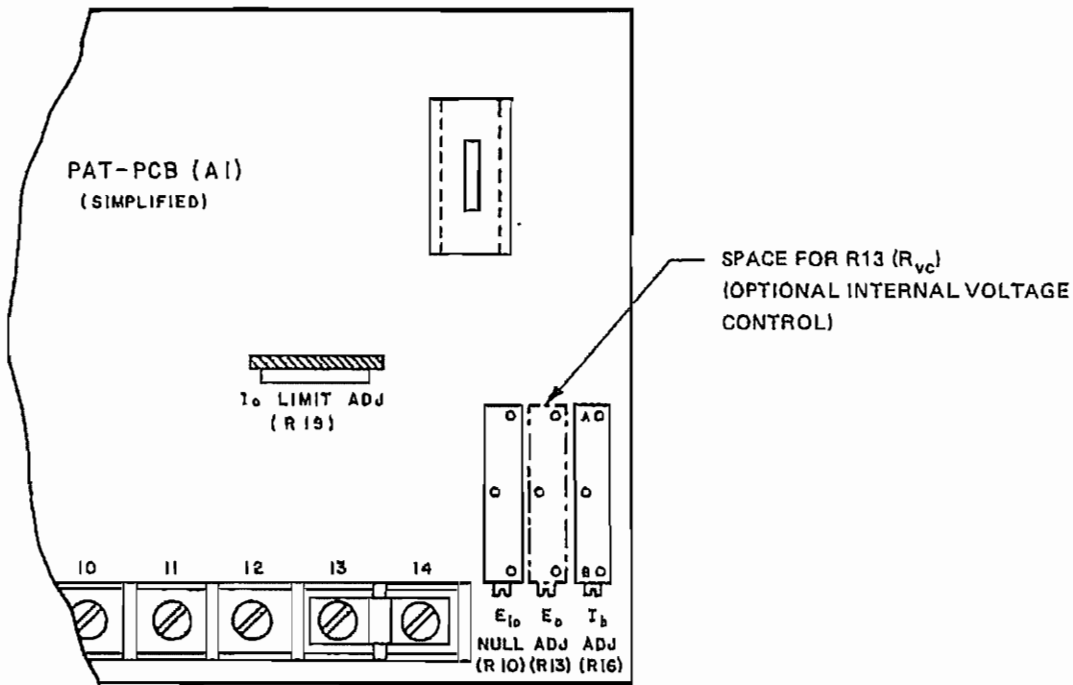

FIG. 5-2 INSTALLATION OF OPTIONAL CONTROLS.
5-6 CURRENT LIMITING CONTROL ADJUSTMENT (Refer to FIG. 5-2) A single-turn potentiometer (R19) conveniently located on the topside of the printed circuit board serves as an adjustment for limiting the output current through the range of 5% to 105% of its maximum rated value. It is factory-adjusted for approximately 5% above the maximum rated output current and has to be reset only if a component should have to be replaced or if a lower limit than the preset value is desired.
**5-7 INSTALLATION AND ADJUSTMENT OF THE (OPTIONAL) VOLTAGE CONTROL RHEOSTAT ( $R_{vc}$ ): REFER TO FIG. 5-2.**
- a) Refer to FIG. 5-2. The voltage control resistance (  $R_{vc}$  ) may be installed internally in the space on the printed circuit board as shown.